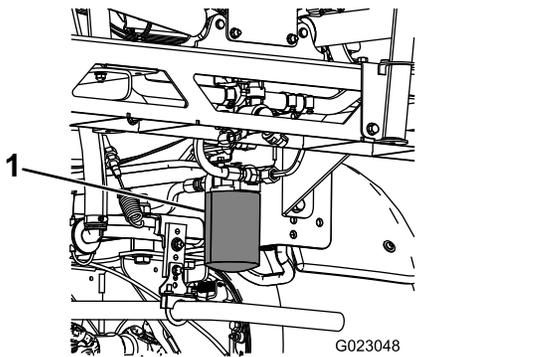

Figure 40
4. Remove the filter (Figure 40).